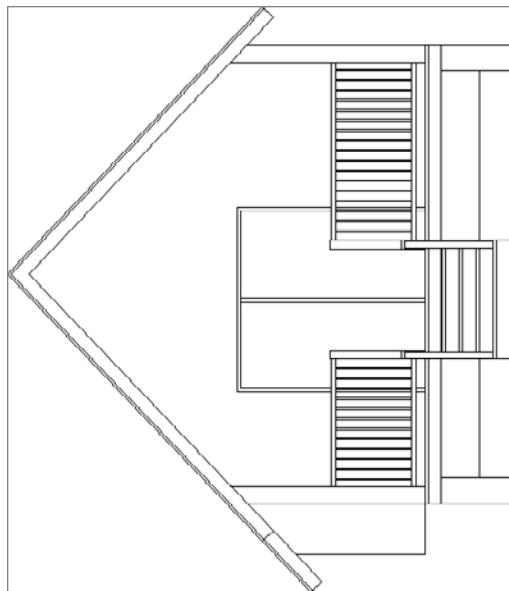

FIGURE 16.74 The east elevation
3. Click the TOP face of the ViewCube to change the view orientation of your drawing, and then zoom into your east elevation (see Figure 16.74). The east elevation is the one that displays the sliding glass door; it is found in the upper-right portion of the drawing file provided in this chapter's download.